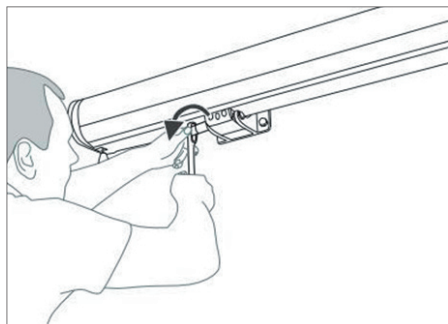

Figure 1
**Once the awning has been adjusted, retighten the screws on the wall bracket (figures 1 and 2).**